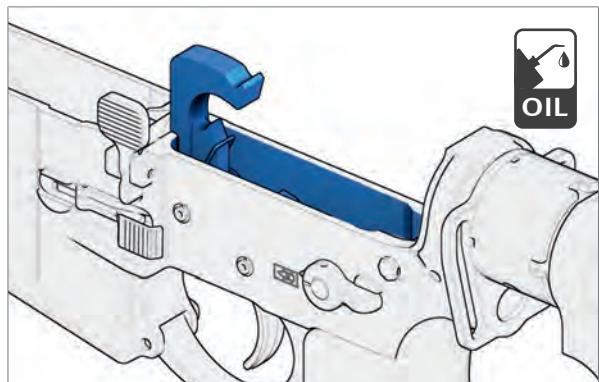

Fig. 114: Lubrication points on lower receiver
3. Lubricate lubrication points of lower receiver (Fig. 114).